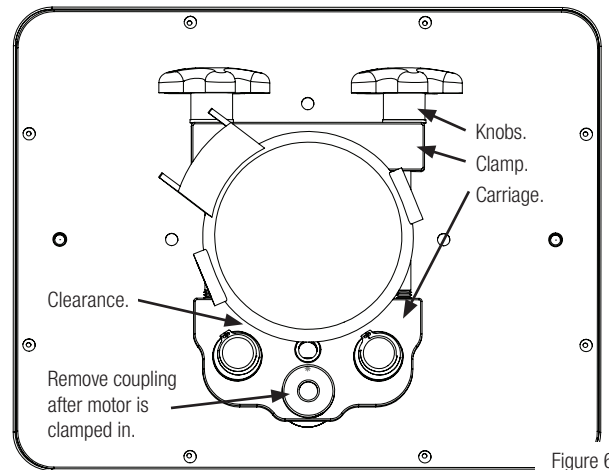

Figure 6.
**STEP 6.** Evenly snug the two knobs. They are self locking so they won't spin freely. Before you finish tightening the knobs, make sure that all parts of the router are well clear of the two posts and lift rod. Figure 6 shows the approximate position of a PC 690 motor relative to the posts. Now remove the coupling from the lift rod and set it aside for later.